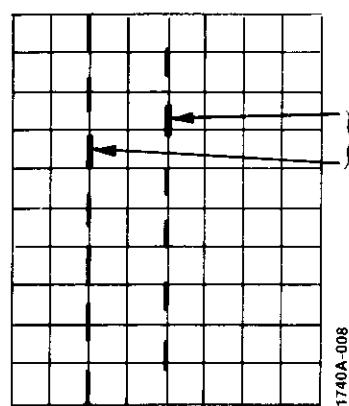

Figure 7a. Normal Display With
3. Turn the DELAY **41** clockwise until part of the waveform in the second half of the CRT is intensified (see figure 7a).